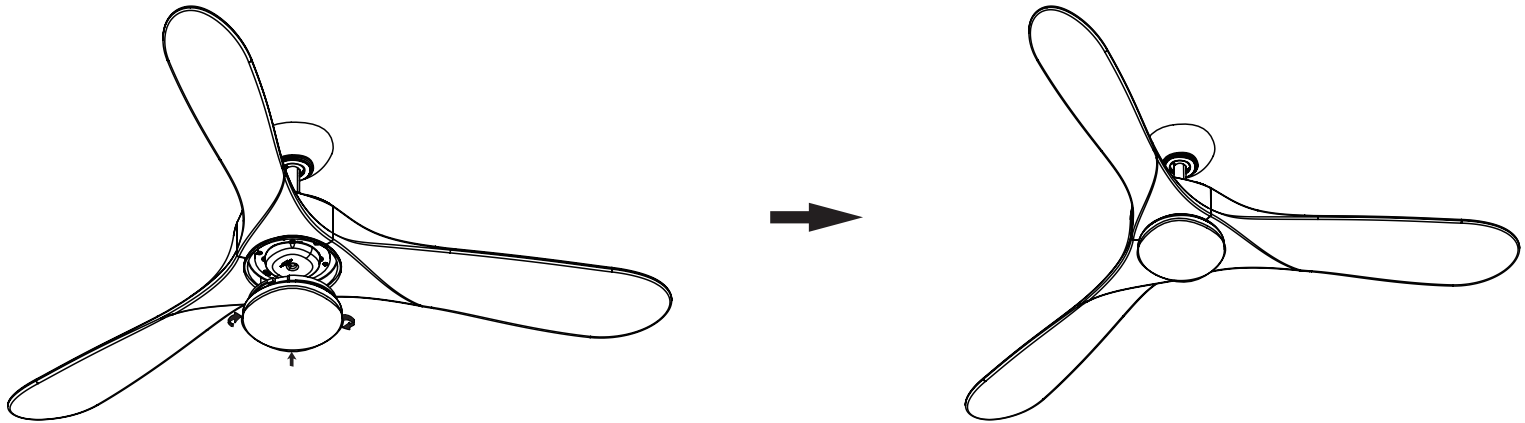

Fig. 24
Step 1. Carefully raise the diffuser to the fan and seat against the mounting plate. Carefully rotate the diffuser (clockwise) until it locks into place in the mounting plate. **DO NOT OVER-TIGHTEN.** (Fig. 24)